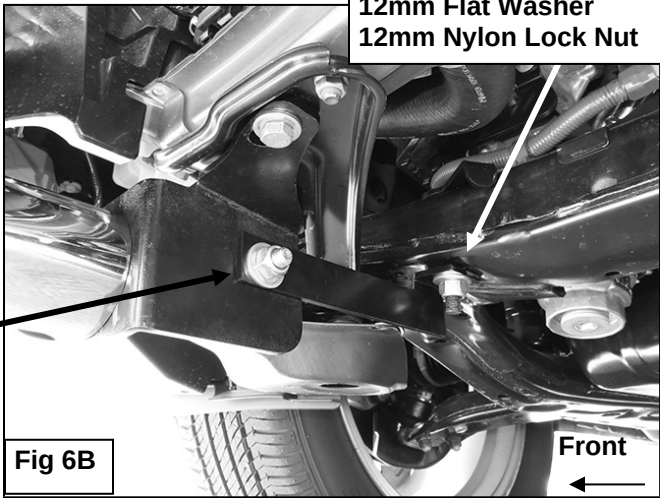

Fig 6B
6. Select the passenger side Support Bracket, **(Figure 6A)**. Attach the end with the bent tab to the Bolt Plate, (see **Step 4**), with the included (1) 12mm x 32mm STD Flat Washer and (1) 12mm Nylon Lock Nut, **(Figure 6B)**. Attach the flat end of the Support Bracket to the inside of the Mounting Bracket using the included (1) 12mm x 30mm Hex Bolt, (2) 12mm Flat Washers and (1) 12mm Nylon Lock Nut, **(Figure 7)**. Do not tighten hardware at this time. .